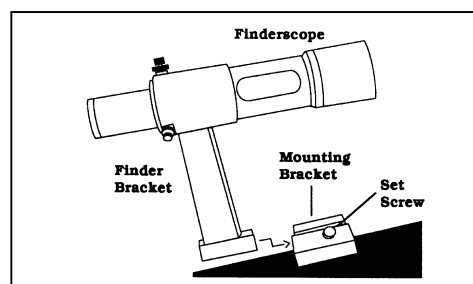

Figure 3
7. The finderscope bracket will slide in from the back. The finderscope should be oriented so that the objective lens is toward the front (open) end of the telescope (see figure 3).